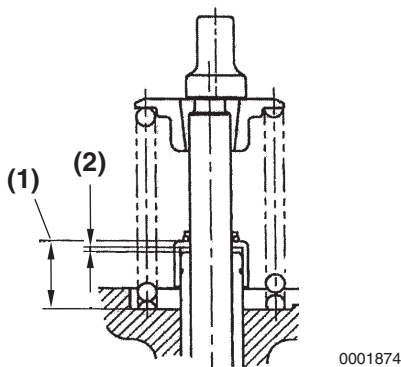

Figure 6-68
2. Measure the distance (**Figure 6-68, (1)**) from the cylinder head to the valve stem seal to ensure proper clearance (**Figure 6-68, (2)**) between the guide and seal. See *Intake / Exhaust Valve and Guide on page 6-7.*